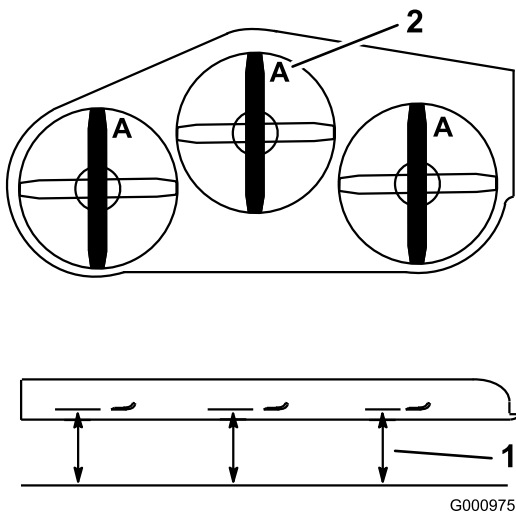

Figure 98
3. Rotate the blades until the ends face forward and backward (Figure 98).
4. Measure from a level surface to the cutting edge, position A, of the blades (Figure 98).